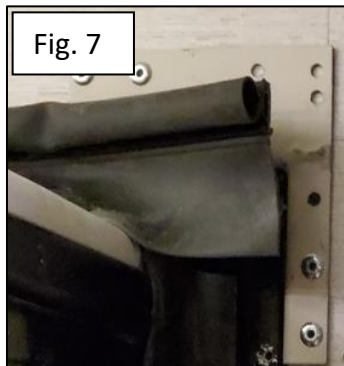

Fig. 7
7. With a rivet gun secure rivets in the corners. (Figure 7)